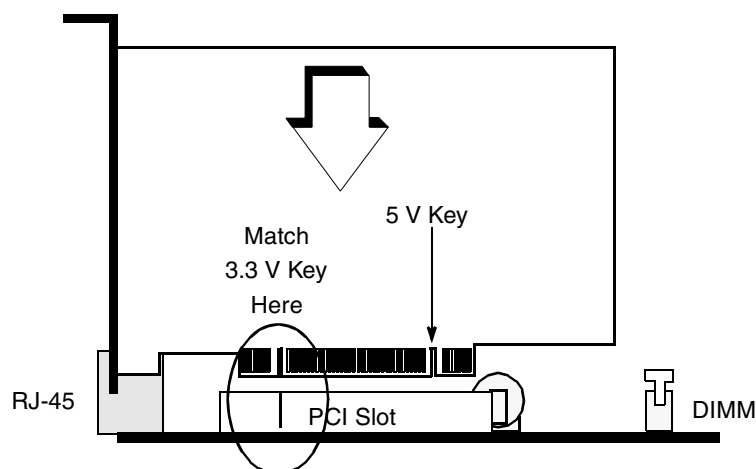

Figure 19. 3.3 V Key on a Typical 3.3 V PCI Card
3.3 V PCI cards can be identified by the key position on the PCI card, as shown in Figure 19.